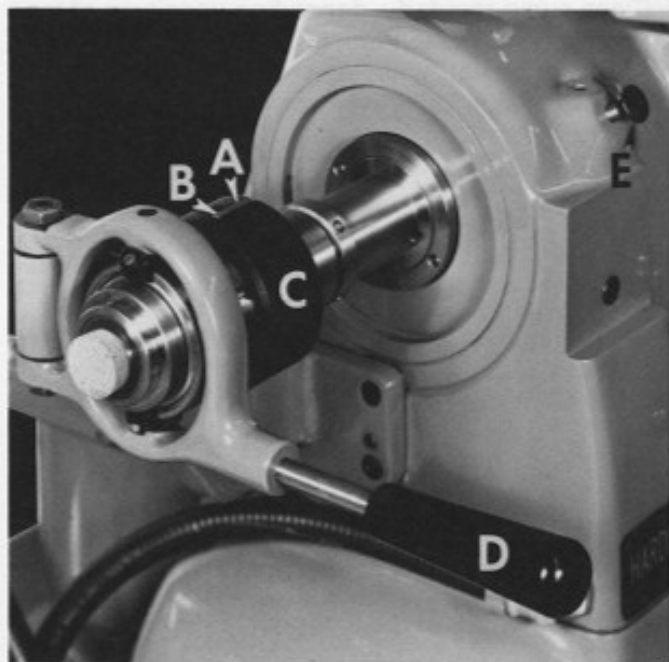

Figure 22—Collet Closer Adjustment
When coolant is used while machining a part having a through hole, apply a thermos bottle cork to the end of the collet closer tube as shown, Figure 22. This will prevent coolant from running out end of spindle.
2. Open collet closer latch "A," Figure 22, by pressing down at point "B."
3. Engage the collet closer tube on the collet or step chuck and thread about two turns only. To turn the collet closer tube, the operator, using his left hand, turns the black shell guard "C," Figure 22, forward while he holds the collet or step chuck in place with his right hand.
5. Lock spindle by pressing in spindle lock pin "E," Figure 22. To engage lock pin "E" into notches provided, turn the spindle by hand until pin enters notch to lock. Move lever "D," to the extreme left or closed position and turn shell guard "C" toward the operator until it is drawn up as far as it will go by hand.